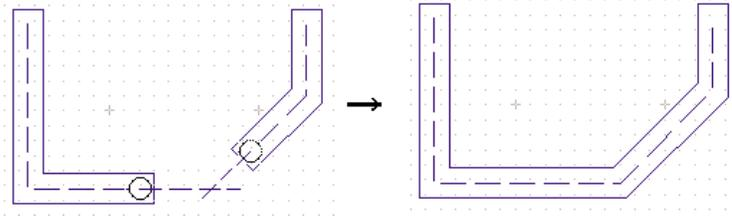

Figure 5. Wire merging: Example 1.
- The two end segments are replaced by the two joined segments, with their merge at the computed intersection point, see Figure 5 and 6.